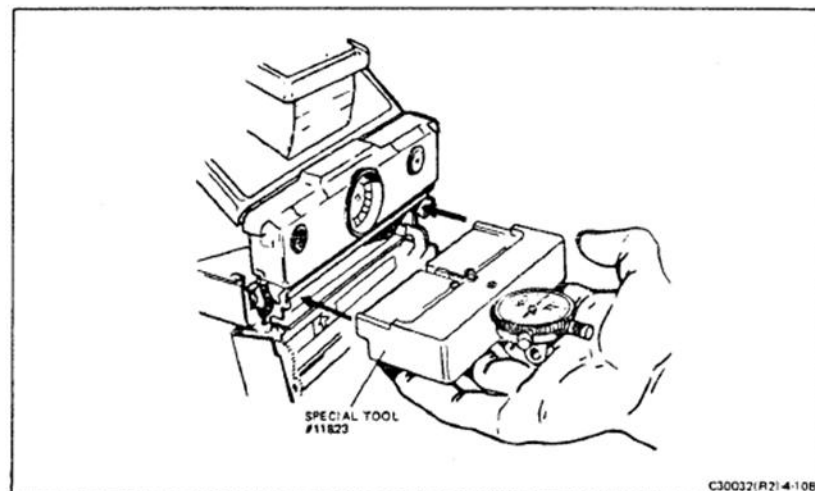

FIGURE 4-108 INNER FRAME BOW GAUGE
- Remove the front cover and test for bow with the Inner Frame Bow Gauge, Special Tool #11823 (Figure 4-108). Hold the camera with the left hand, insert the gauge and exert pressure on the center of the gauge. The reading should be between +.004 inches and +.011.